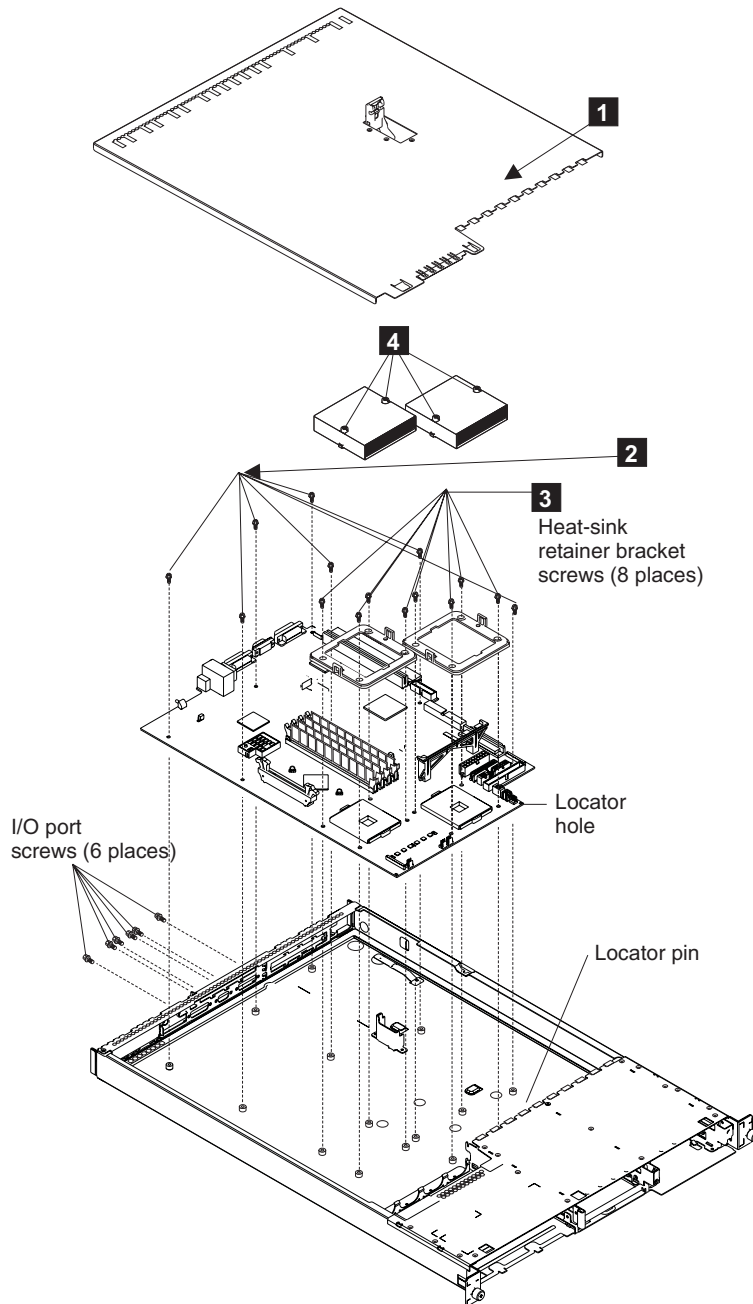

Figure 254. SAN Volume Controller 2145-4F2 system board
1. Replace the seven screws **2** shown in Figure 254 on page 584.
4. Replace the screws from each of the heat sink retainer brackets **3** shown in Figure 254 on page 584.